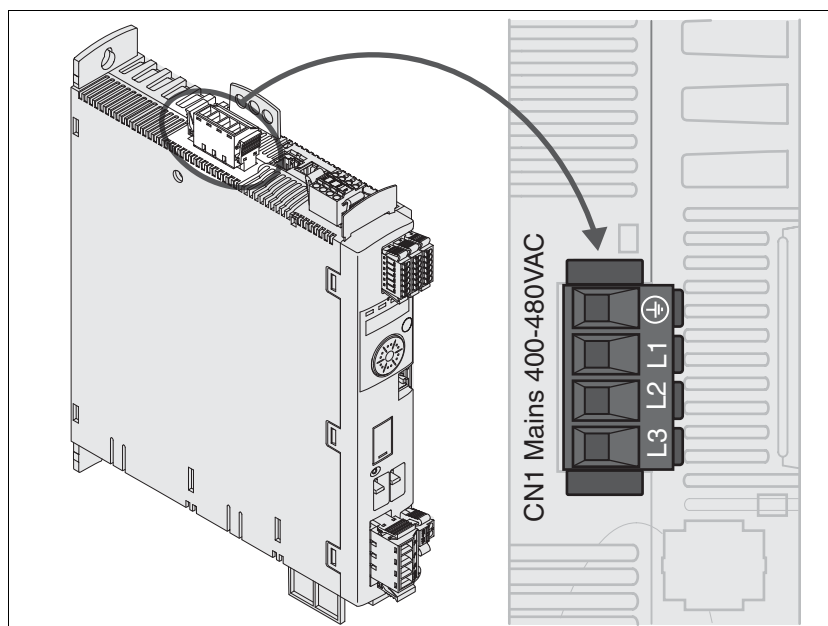

Figure 6.12 Wiring diagram power stage supply voltage for three-phase device
- Connect the mains cable (Figure 6.12). Note the tightening torque specified for the terminal screws.